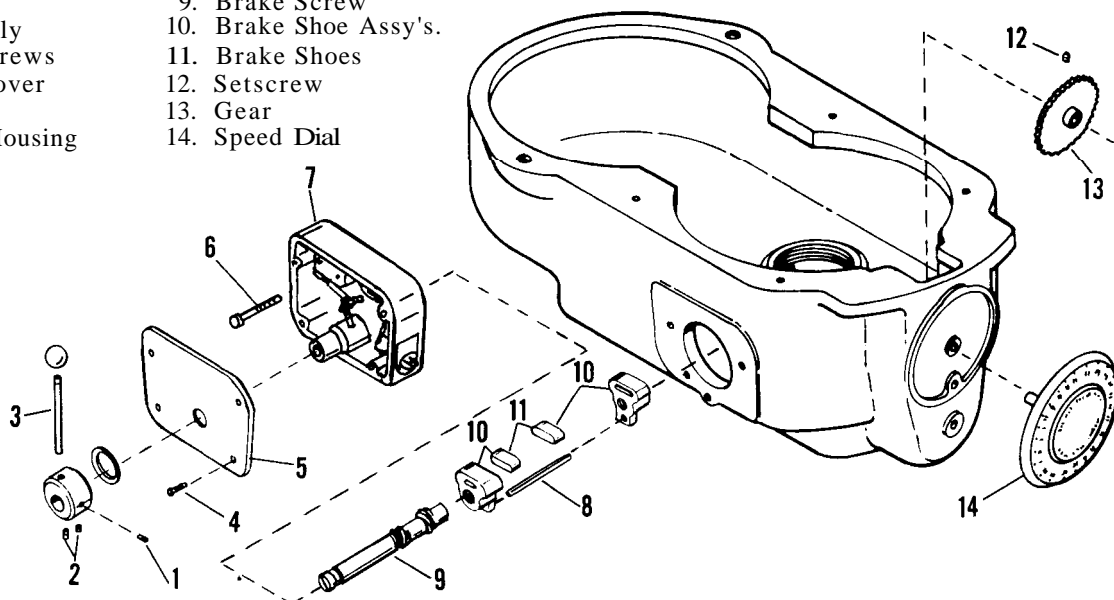

Figure 21. Spindle Brake And Speed Dial--Variable Speed Head
When variable pulleys and shifter are removed, it may be necessary to re-time the spindle speed dial (See figure 21). Do this by running the spindle at its lowest r. p. m. and check it with a tachometer. Loosen the setscrew (12) in gear (13), rotate the speed dial (14) to the correct speed and retighten the setscrew.
49. REPLACING SPINDLE BRAKE SHOES (figure 21)